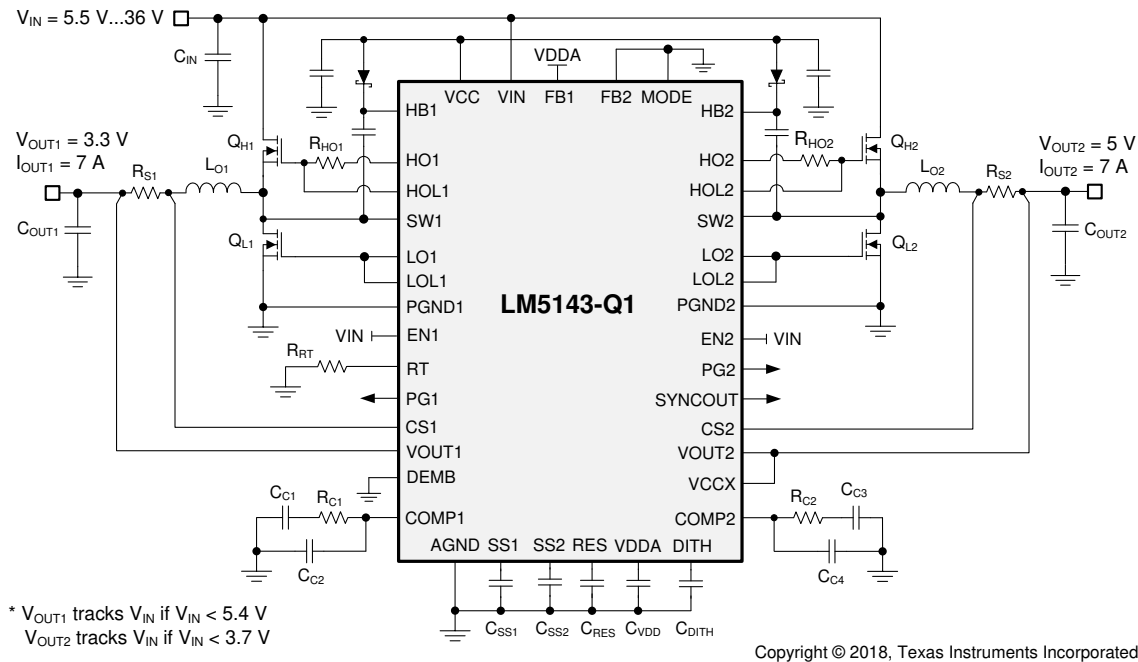

Figure 1. LM5143-Q1 Dual Synchronous Buck Regulator Simplified Schematic
Figure 1 shows the schematic of an LM5143-Q1-based synchronous buck regulator (EMI filter stage not shown). Soft start (SS), restart (RES), and dither (DITH) components are shown that are configurable as required by the specific application.